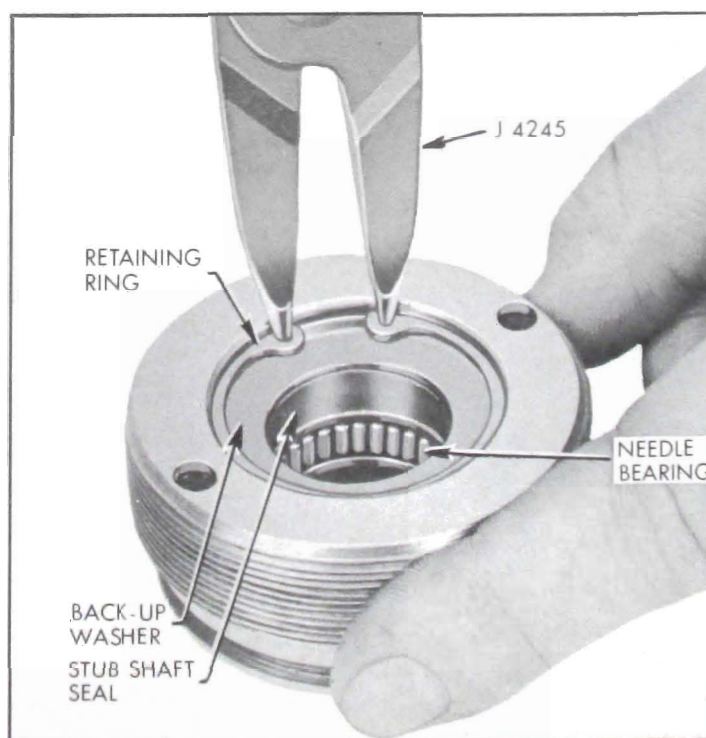

Figure 8-31—Removing Stub Shaft Seal Retaining Ring
3. Remove stub shaft seal retaining ring using No. 3 Truarc Pliers J-4245 and remove seal back-up washer. See Figure 8-31.